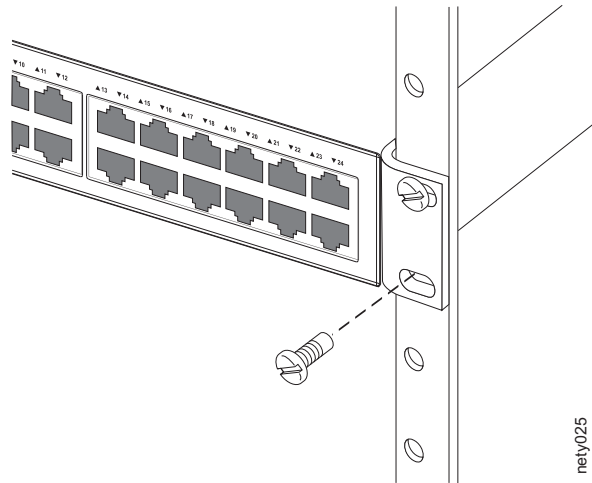

Figure 21. Installing the device in a rack
3. Attach the device in the rack as illustrated in Figure 21.